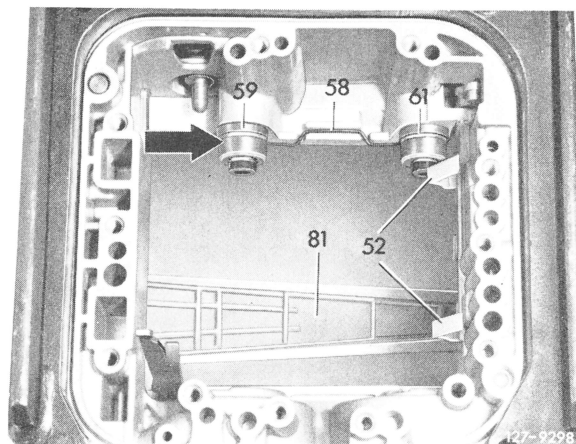

Fig. 33
**54** Insert upper brake band guide (81) and lower brake band guide for B 2 (52) into housing (Fig. 33).